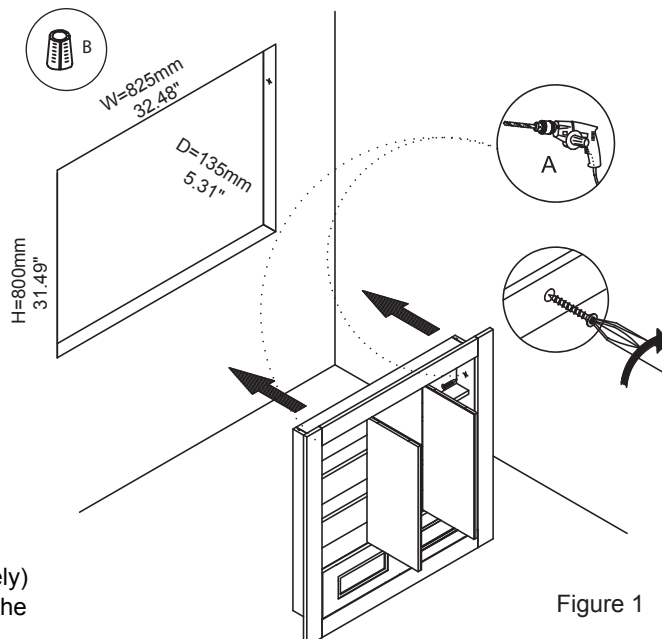

Figure 1
**INSTALLATION - for recessed-mount (figures 1 and 2)**